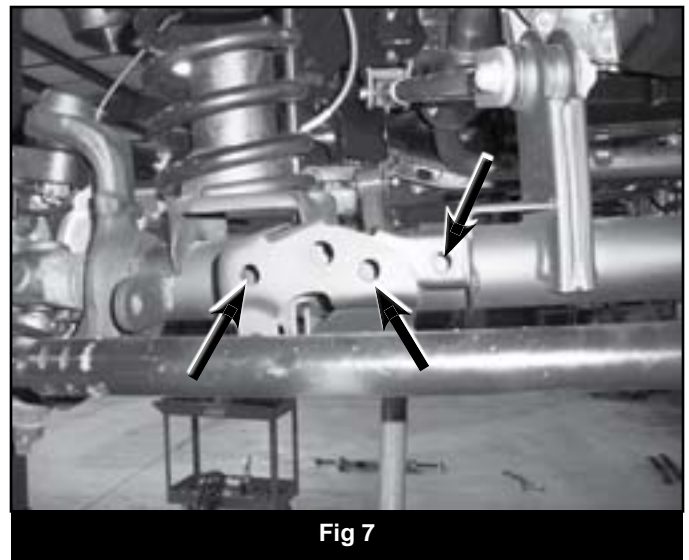

Fig 7
21. Drill the three small existing holes in the OE track bar mount to 1/2" (Fig 7).